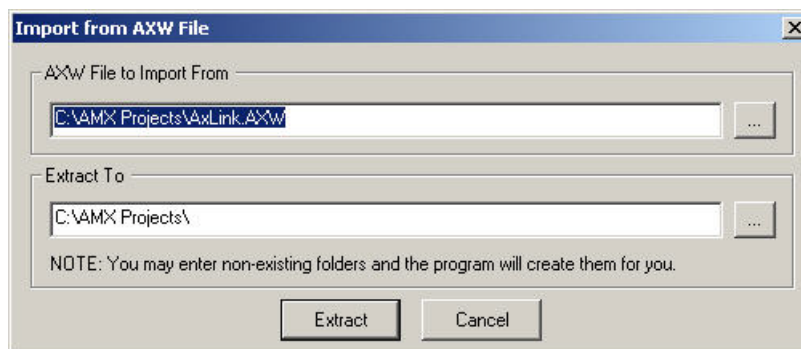

FIG. 279 Select a AXW File For Extraction dialog (NetLinx Studio)
- a. When you open a AXW file, NetLinx Studio will prompt you to specify a target directory to extract the files contained in the AXW file to in the *Import From AXW File* dialog (FIG. 279):